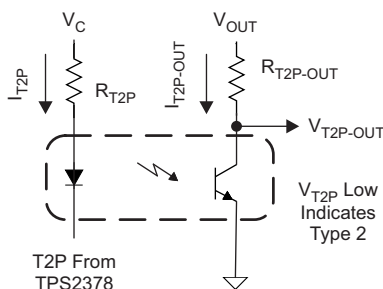

Figure 16. T2P Interface
- As shown in Figure 16, let $V_C = 12$ V, $V_{OUT} = 5$ V, $R_{T2P-OUT} = 10$ k Ω , $V_{T2P} = 260$ mV, $V_{T2P} = 400$ mV.